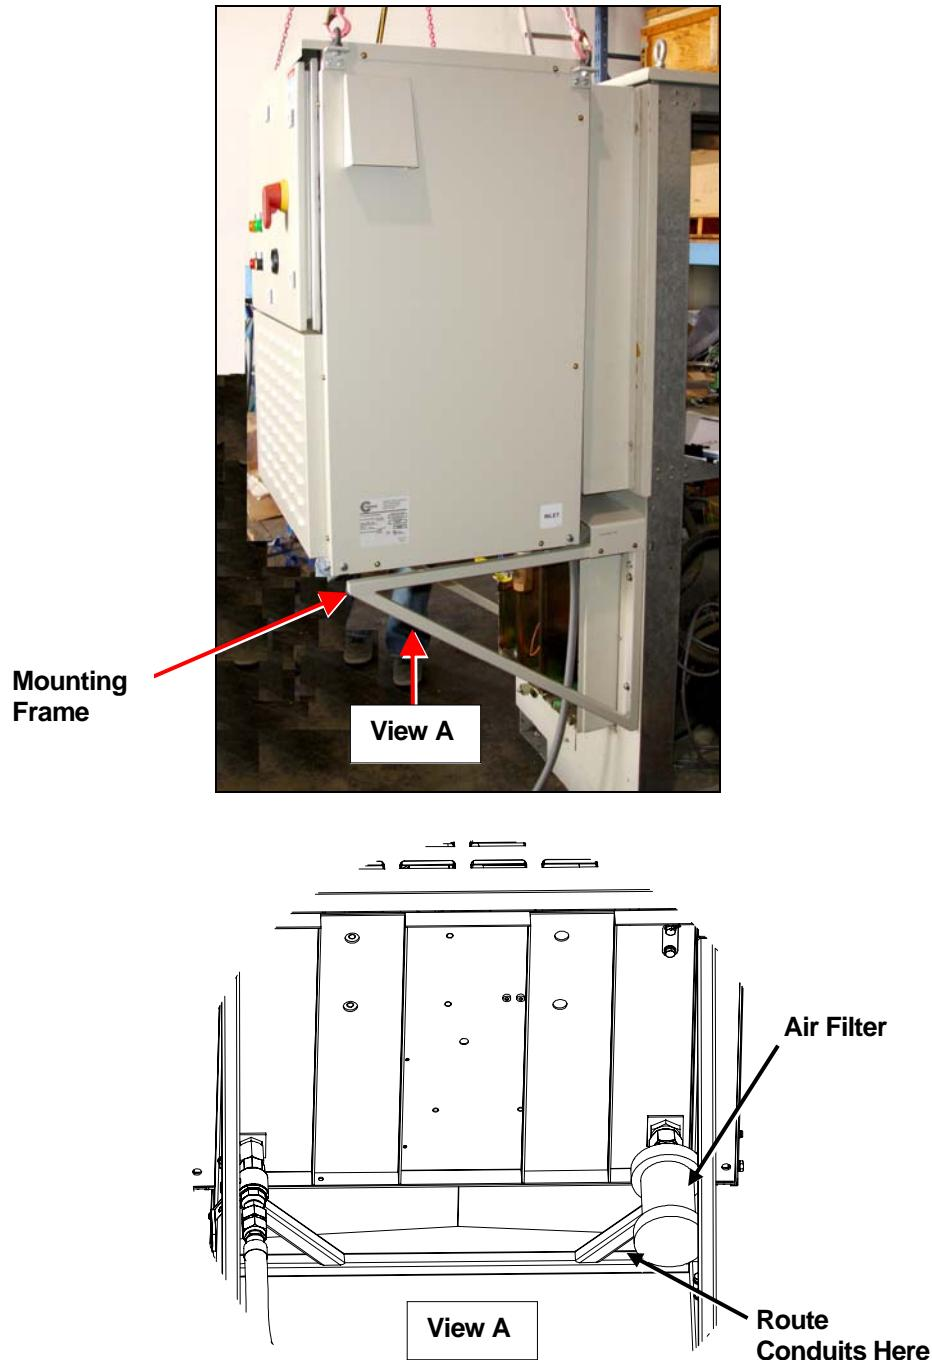

Figure 6. Installing Air Pack on Mounting Frame
7. Lift the Air Pack and carefully align it above the mounting frame, paying special attention to the outlet valve and inlet filter under the Air Pack and the hanging conduits. Route the two conduits through the corner of the mounting frame, near the inlet filter, as you lower the Air Pack. See Figure 6. Install the Air Pack in place with the M10 fasteners, flat washers, and lock washers using a 17mm socket and wrench.